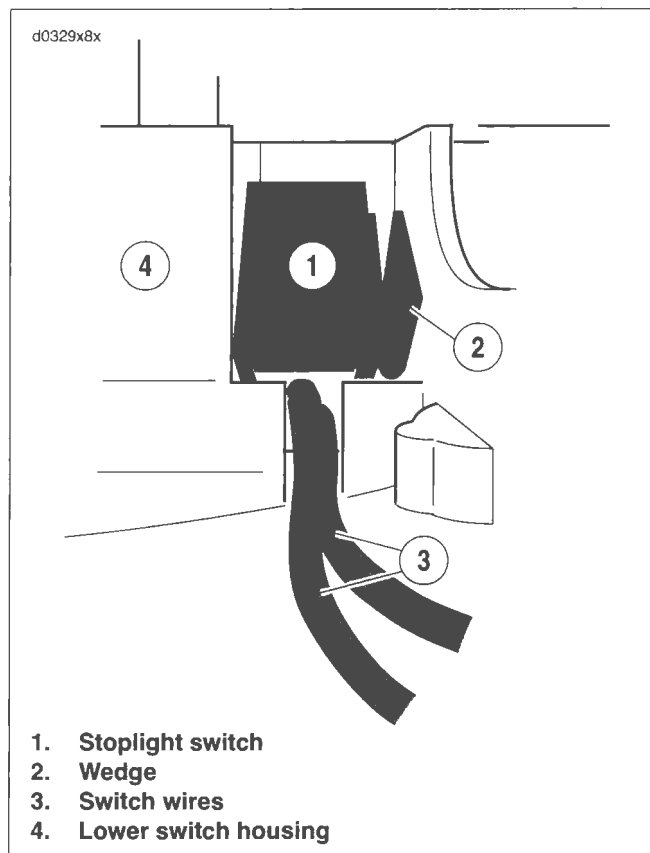

Figure 8-104. Install Stoplight Switch
6. See Figure 8-104. Push down on switch (1) so that it bottoms against housing and wires (3) run in groove at base of cavity. With the concave side facing outward, insert wedge (2) between switch and outboard side of switch housing.